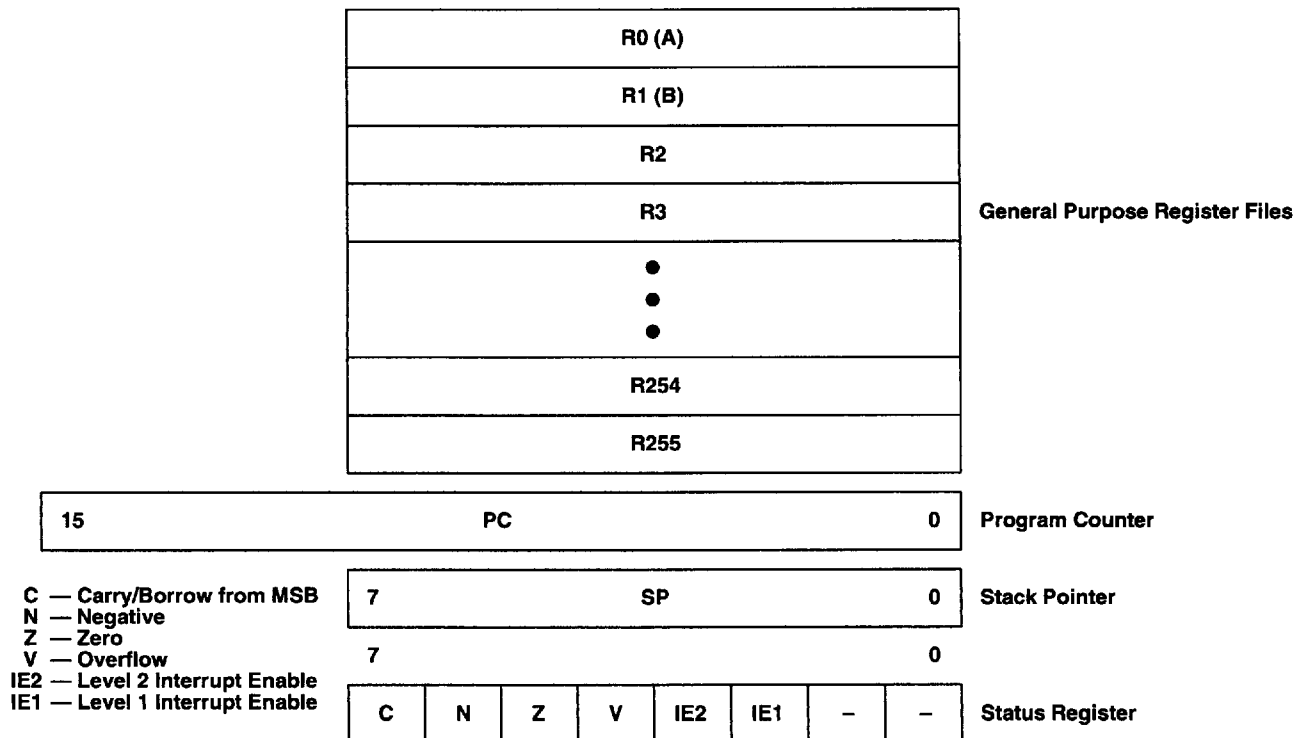

Figure 4. CPU Registers
The TMS370 family CPU registers accessible to the programmer are shown in Figure 4. The register file consists of 256 general purpose registers, R0 through R255 implemented in on-chip RAM, and is used by the CPU for general purpose 8- and 16-bit source and destination operands, index registers, and indirect addressing. The first two registers, R0 and R1, are also called registers A and B and are used by the CPU as general purpose registers or for implied operands. The program counter (PC) contains the address of the next instruction to be executed. The stack pointer (SP) contains the address of the last or top entry on the stack, which is located in the on-chip register file. The status register (ST) contains four bits that reflect the outcome of the instruction just executed, and two bits that control the masking of the interrupt priority chains.